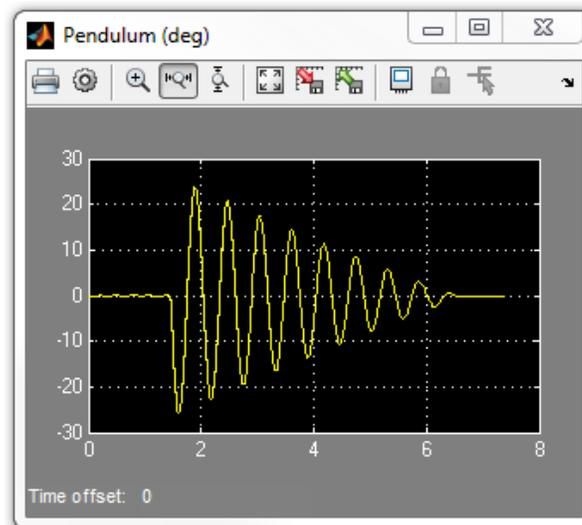

Figure 2.2: Free-oscillation response of pendulum
3. Build and run the **QUARC**[®] controller. With the controller running, manually perturb the pendulum while holding the rotary arm in place. The scope response should be similar to Figure 2.2.